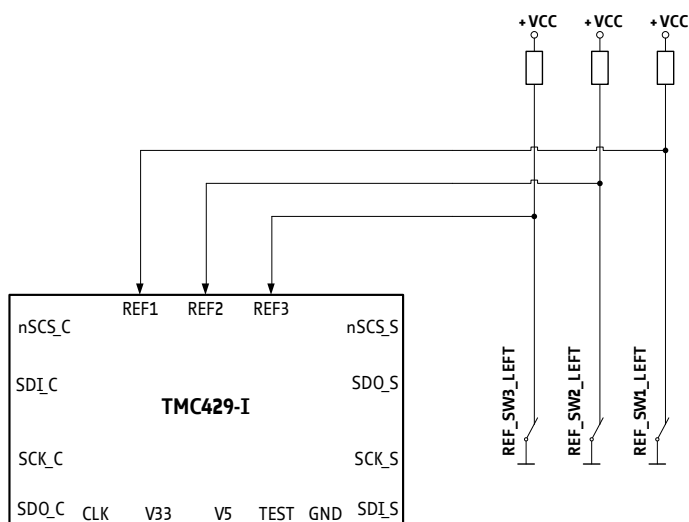
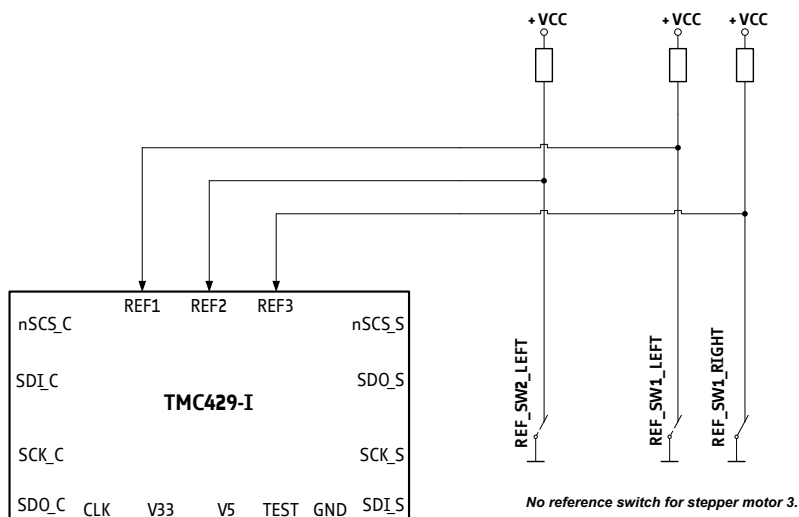

Figure 9.2 Reference switch configuration *left-side-only* for *mot1r*=0 (and *refmux*=0)
Figure 9.3 Reference switch configuration *two-one-zero* for *mot1r*=1 (and *refmux*=0)
| mot1r             | SPI and Step/Dir | This bit is only used with the TMC429-I (16-pin package). Three available reference switches can be adjusted. Refer to chapter 9.1 (including Figure 9.2 and Figure 9.3 for further information).                                                                                                                                                                                                             |
- After power-on-reset, the default setting (*refmux*=0 and *mot1r*=0) selects the basic single reference switch configuration as outlined in Figure 9.2.
The TMC429-I offers three reference switch inputs, which can be used *left-side-only* or *two-one-zero* as shown in Figure 9.2 and in Figure 9.3.
If *mot1r* is set to 1 the input REF1 is also associated with the left reference switch of stepper motor #1. REF2 is also associated to the left reference switch of stepper motor #2. But, the input REF3 is associated to the *right reference switch* of stepper motor #1 and no reference switch input is associated to stepper motor number #3 (see Figure 9.3)